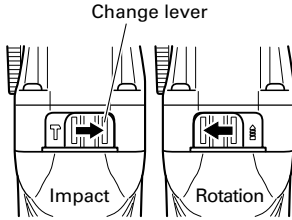

Fig. 8
8. IMPACT to ROTATION changeover (Fig. 8)